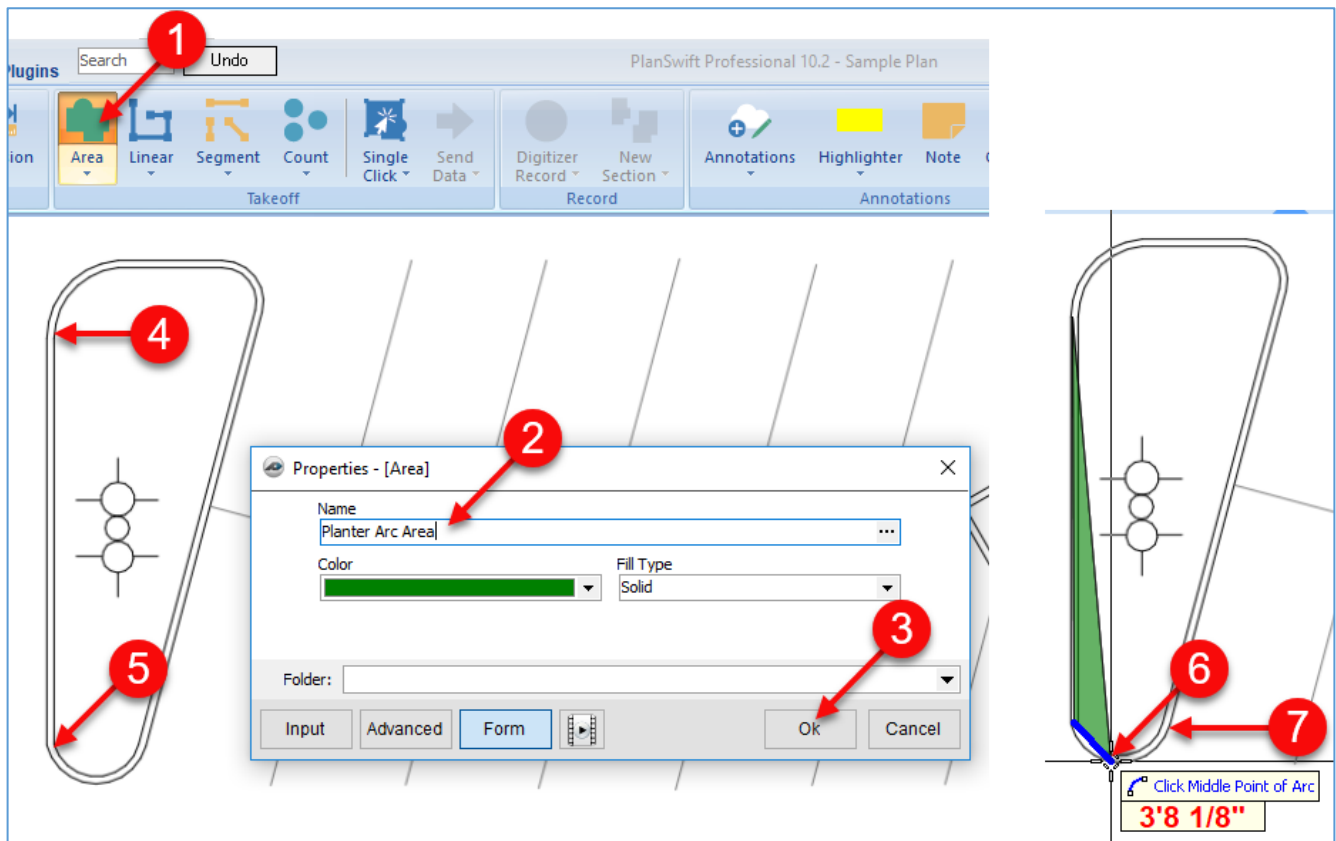

Figure 23-A
8. Click on the fifth **Point**, which completes the straight line to the second arc and press the letter **A** again (Fig. 23-B).